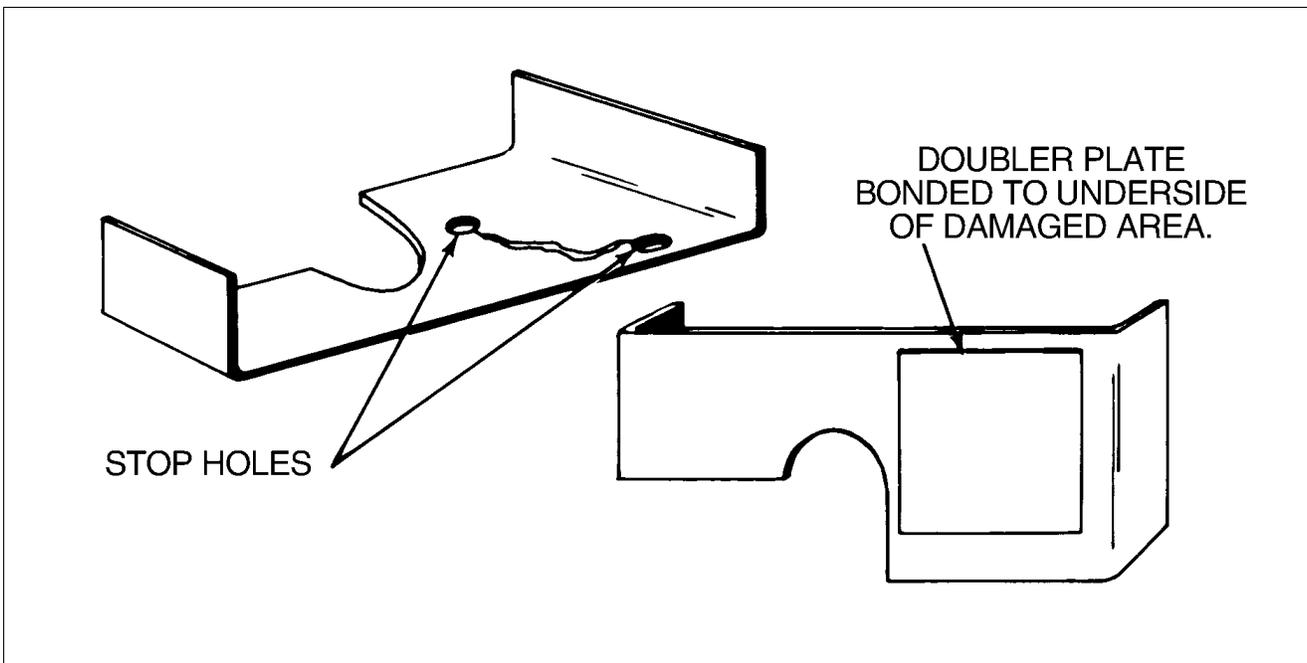
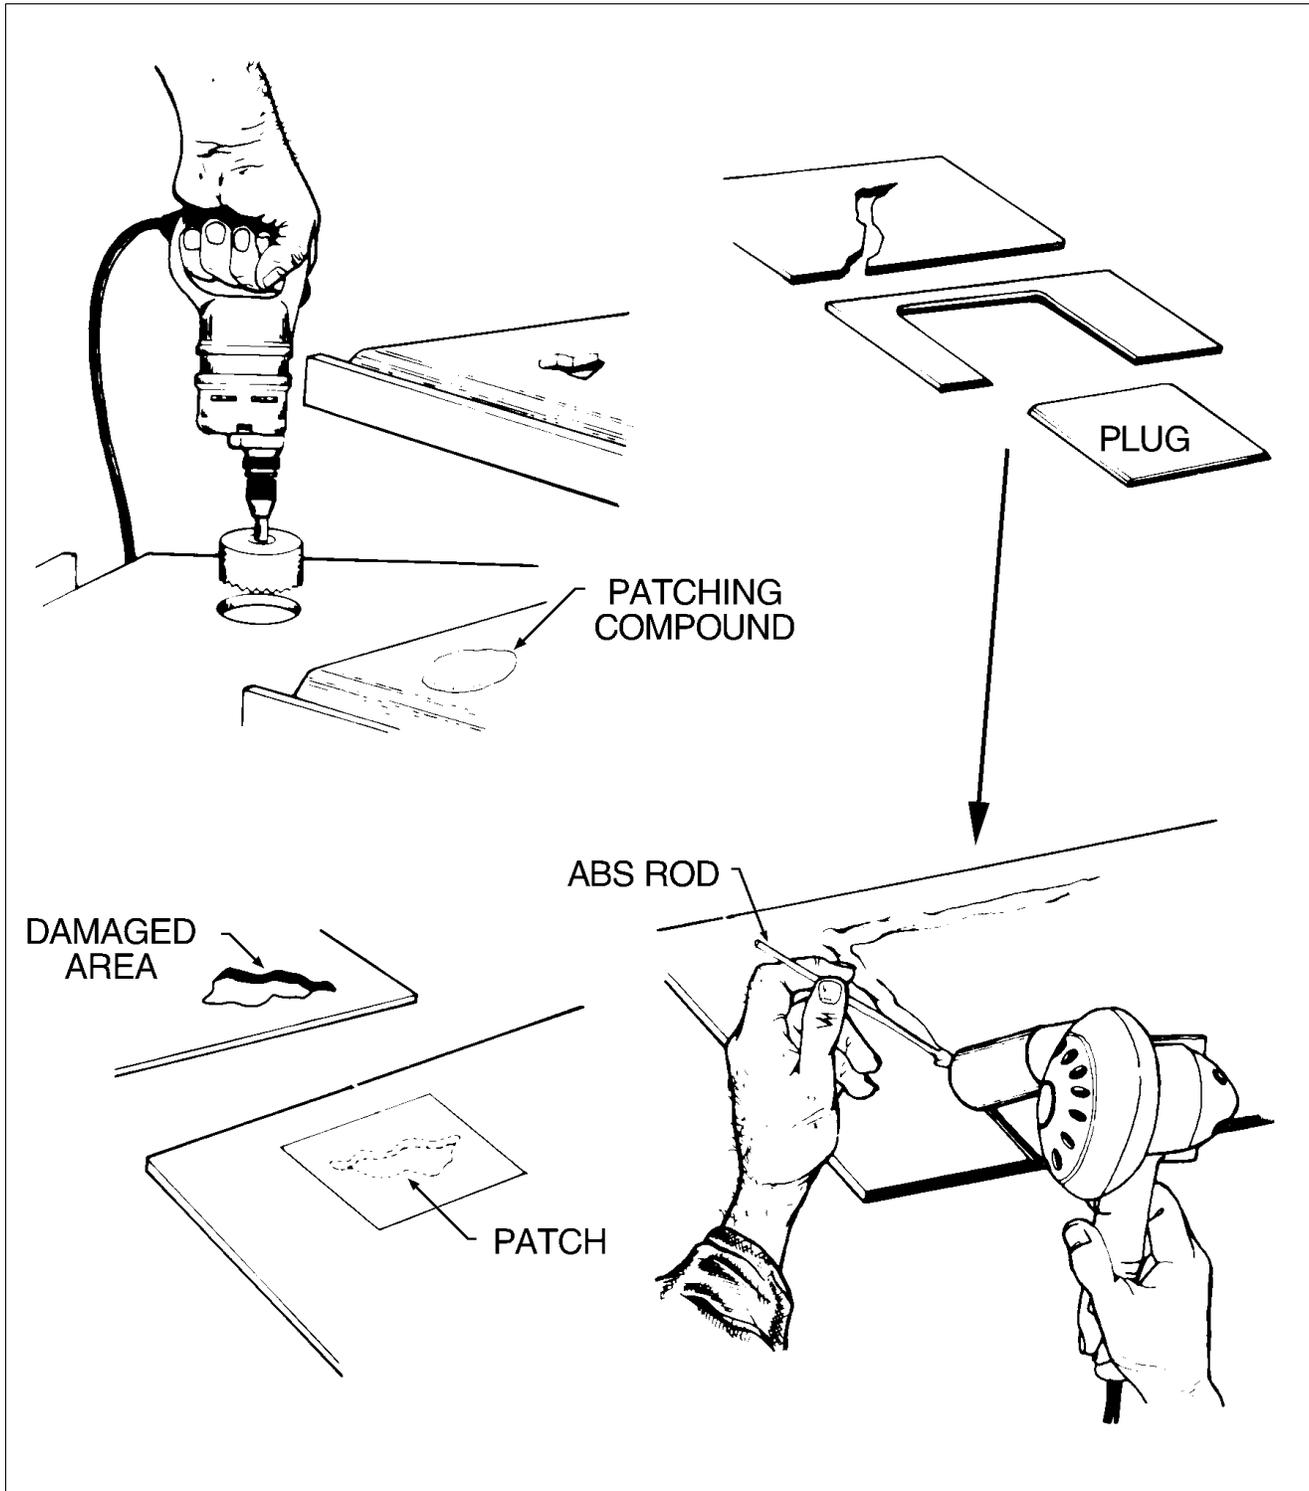
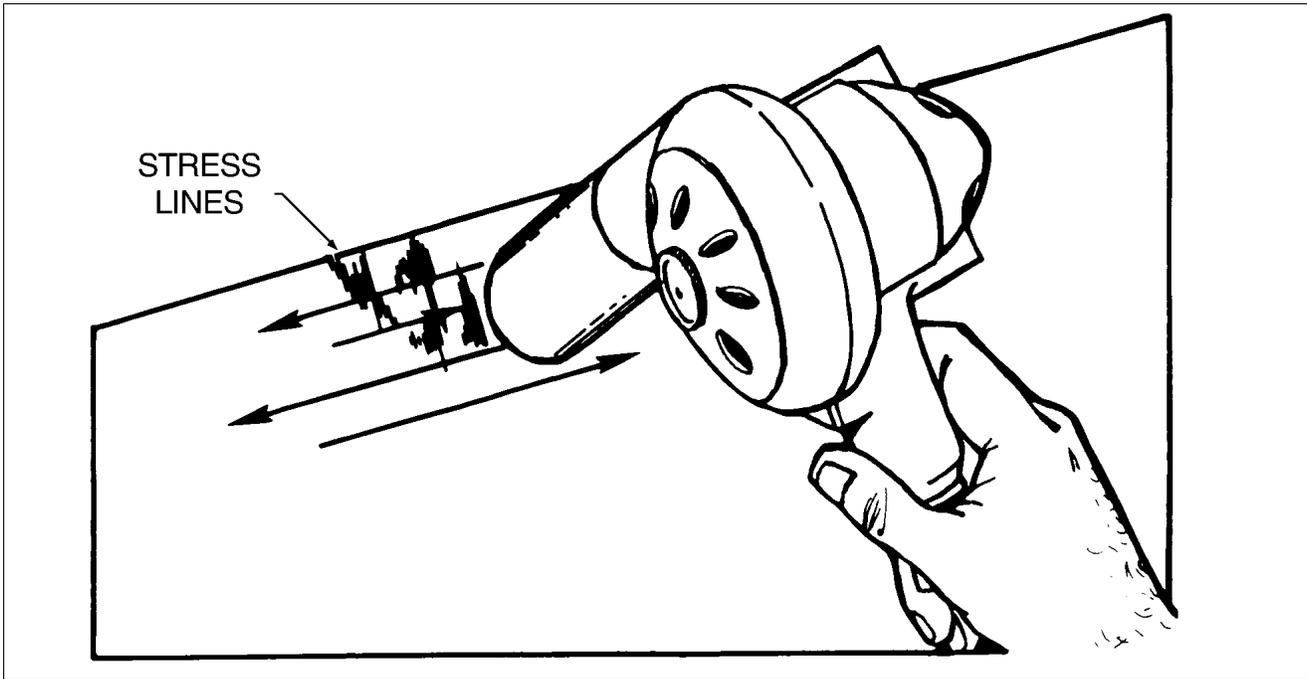

Figure 51-6. Repairing of Cracks
Figure 51-7. Various Repairs
Figure 51-8. Repair of Stress Lines
- d. Cracks: (Refer to Figure 51-6.)
- (1) Before repairing a crack in thermoplastic part, first determine what caused crack and alleviate that condition to prevent it recurring after repair is made.
- (2) Drill small stop holes at each end of crack.
- (3) If possible, a double plate should be bonded to reverse side of crack to provide extra strength to part.
- (4) Crack should be V-grooved and filled with repair material, such as solvent cement, hot melt adhesive, epoxy patching compound or hot air welded, whichever is preferred.
- (5) After repair has cured, it may be sanded to match surrounding finish.
- e. Repairing Major Damage: (Larger than 1 inch in diameter.) (Refer to Figure 51-7.)
- (1) If possible a patch should be made of same material and cut slightly larger than section being repaired.
- (2) When appearances are important, large holes, cracks, tears, etc, should be repaired by cutting out damaged area and replacing it with a piece of similar material.
- (3) When cutting away damaged area, under cut perimeter and maintain a smooth edge. Patch and/or plug should also have a smooth edge to insure a good fit.
- (4) Coat patch with solvent adhesive and firmly attach it over damaged area.
- (5) Let patch dry for approximately one hour before any additional work is performed.
- (6) Hole, etc, is then filled with repair material. A slight overfilling of repair material is suggested to allow for sanding and finishing after repair has cured. If patching compound is used, repair should be made in layers, not exceeding a 1/2 inch in thickness at a time, thus allowing compound to cure and insuring a good solid buildup of successive layers as required.
- f. Stress Lines: (Refer to Figure 51-8.)